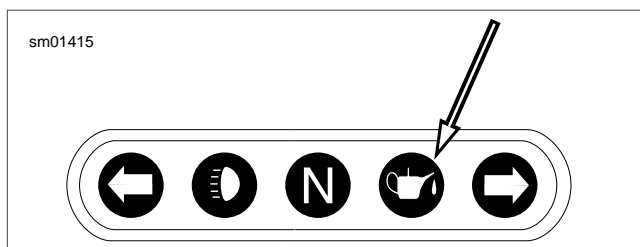

Figure 1-8. Oil Pressure Indicator Lamp
3. Start engine. See Figure 1-8. Verify that oil pressure signal lamp turns off when engine speed is 1000 RPM or above. Turn engine off.